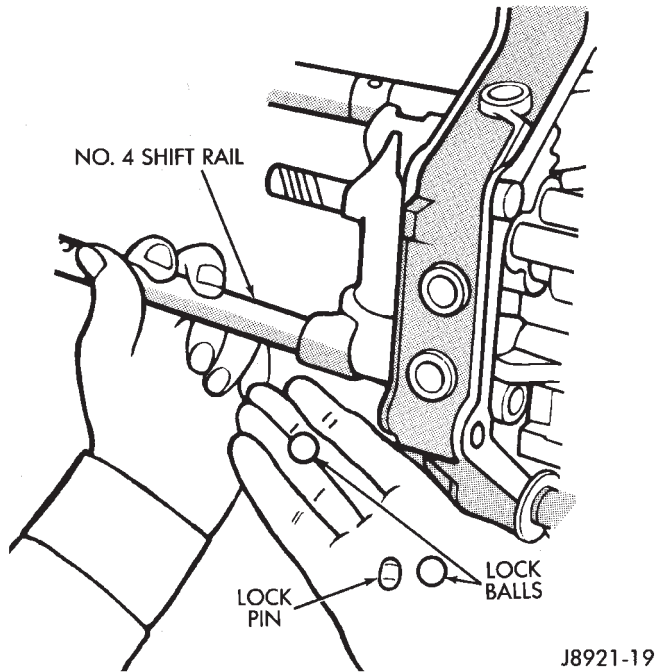

Fig. 11 Removing No. 4 Shift Rail, Lock Balls And Pin
(5) Pull No. 4 shift rail outward and remove lock balls and pin (Fig. 11).